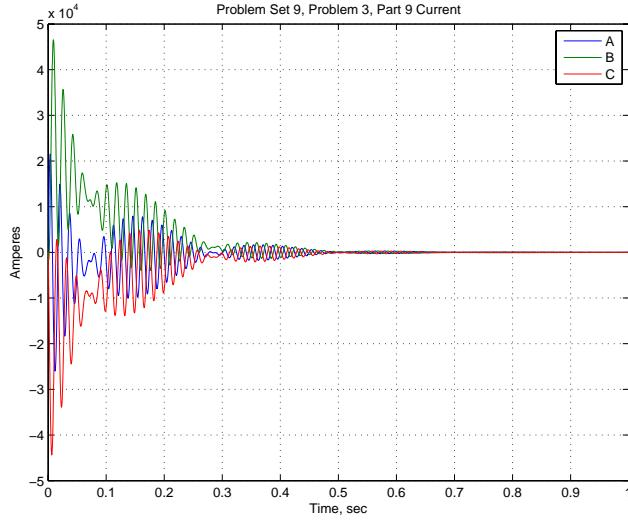

Figure 7: Synchronizing out of Phase: Phase Currents
8. The last part of this is synchronization out of phase by 20 degrees. This requires the full, seven state simulation, and we can use the same integration routine we used in the previous part. The initial conditions are the same as for the fault simulation, with the added value of  $\delta_0 = \pi/9$  and  $\omega_0$ . Of course, mechanical torque must be set to zero. The results are shown in Figures 7 through 9.